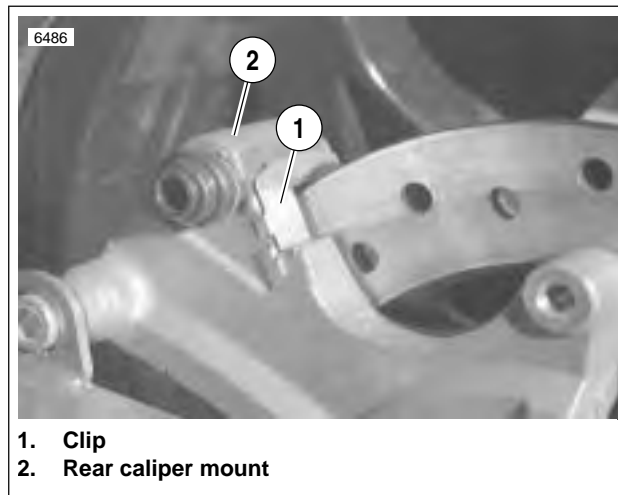

Figure 2-58. Caliper Mount Clip
- See Figure 2-58. Install caliper mount clip (1) if removed.